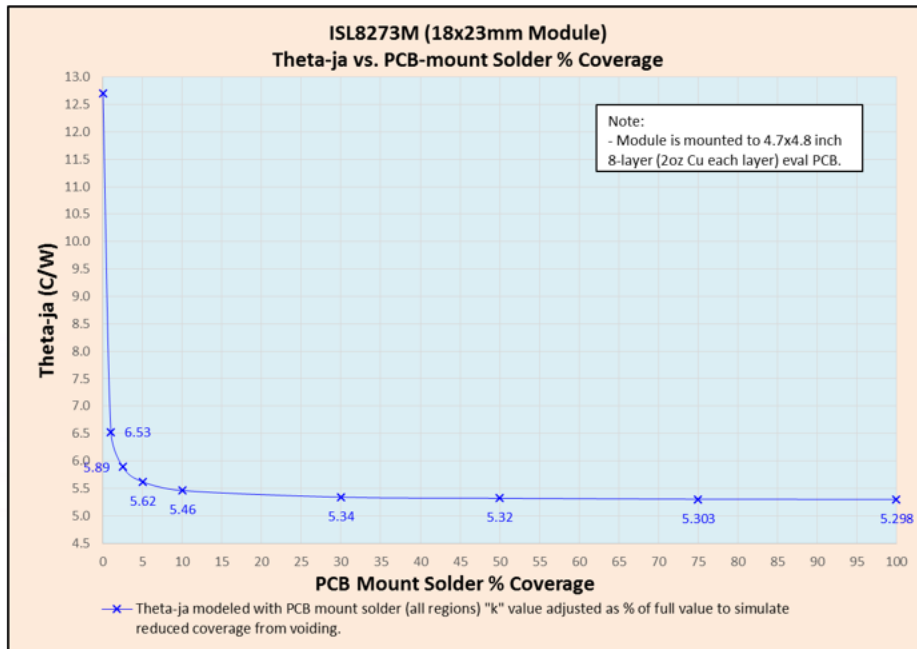

FIGURE 7. θ_{JA} vs PCB-MOUNT SOLDER % COVERAGE
- Solder voids have minimal impact on thermal performance as shown in Figure 7